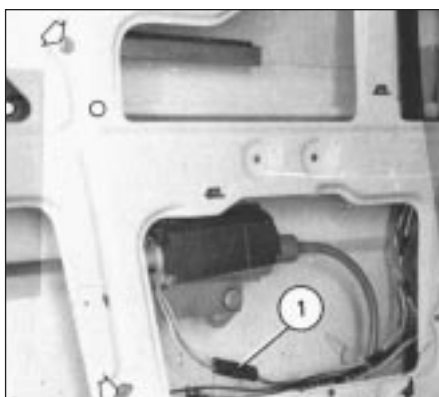

Fig. 9.11 Power-operated window motor (Sec 31)
- 3 Disconnect the wiring plug (1) (Fig. 9.11).